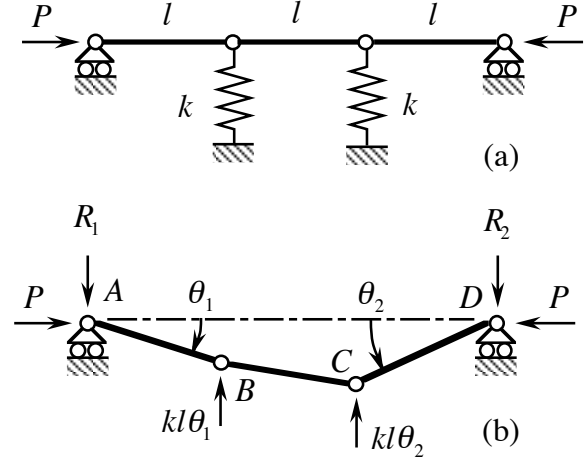

Figure 2: Buckling of a three-link structure
4. This problem shows that eigenvalues and eigenvectors are often the buckling loads and buckling shapes of a structure. Consider the three-link structure shown in Fig. 2(a). The length of each link is l , and the middle nodes are supported by springs with stiffness k . In addition, the structure is subjected to a pair of compressive end loads P . Let's consider a static analysis. Assume that the structure is buckled infinitesimally to the configuration shown in Fig. 2(b). The buckled shape is described by the angles θ_1 and θ_2 . Since the buckling is infinitesimal, one can assume that